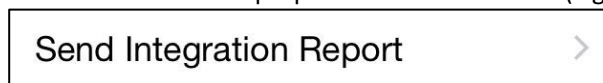

Figure 7 - Advanced
7. Back inside of the "Integration" tab, select "Send Integration Report" to email the Lutron Integration IDs to an email address. Please print out the Lutron IDs for record purposes and convenience (Figure 7).